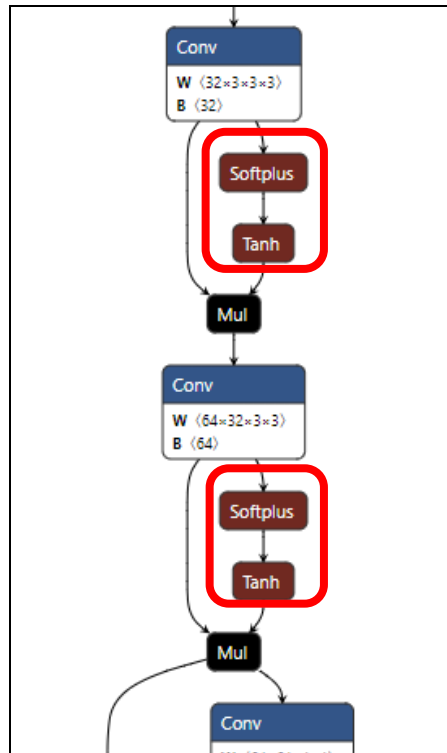

Figure3.5 Nodes that are not subject to quantization in pattern (2) (Surrounded by Red Round-Cornered Rectangles)
In this example, the following three activation functions are not quantized. However, since "^" is added to the Mul operator included in the patterns (2) and (3), it is subject to quantization (See Figure3.5, Figure3.6.)
- (1) Mish
- (2) Softplus → Thanh → Mul
- (3) Exp → Add → Log → Tanh → Mul